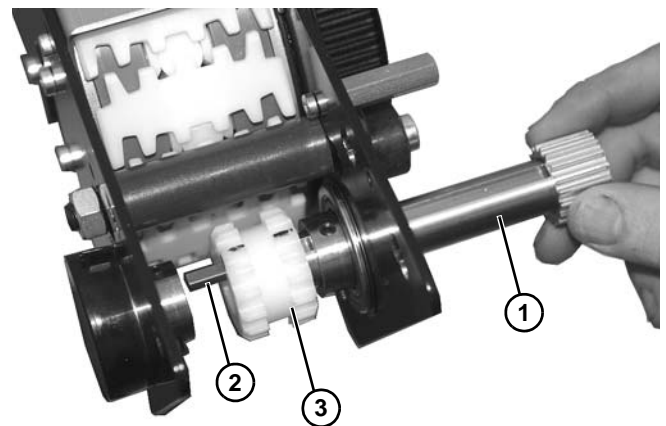

Figure 152
16. Remove drive shaft (Figure 152, item 1), making certain not to lose key (Figure 152, item 2) when removing gear (Figure 152, item 3).